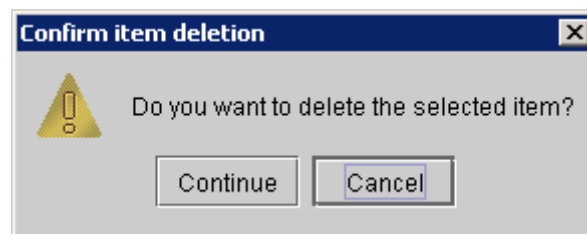

Figure 200 : Graphic element deletion confirmation
- ◆ Click on the **Remove** button; the following graphic element deletion confirmation message then appears (Figure 200):